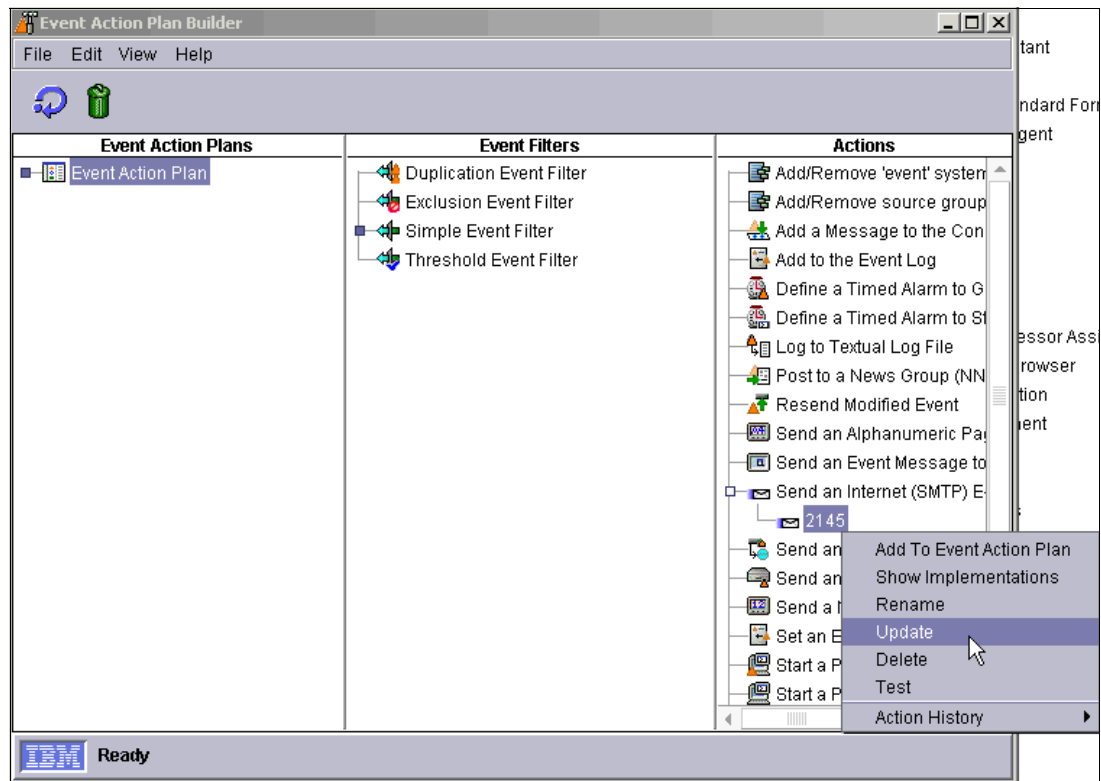

Figure 14-32 Updating the 2145 event
6. On the Event Action Plan Builder window (Figure 14-32), in the Actions panel, select **Send an Internet (SMTP) E-mail**. Then right-click **2145** and select **Update**.